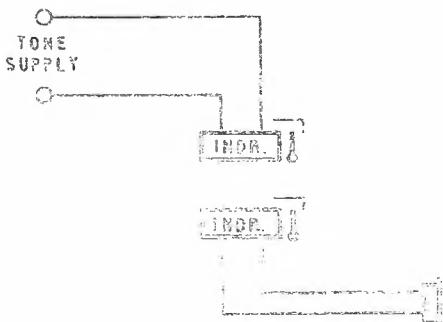

FIG. 2.
- STEP 4. Using unshielded indicators, connect the circuit as shown in Fig. 2.